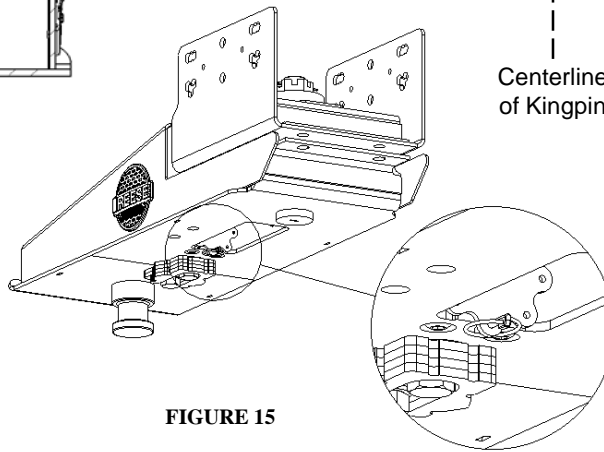

FIGURE 15
- Once tight (wedge fully inserted into funnel opening), attach pin into handle as shown in Figure 15, to secure wedge in place.